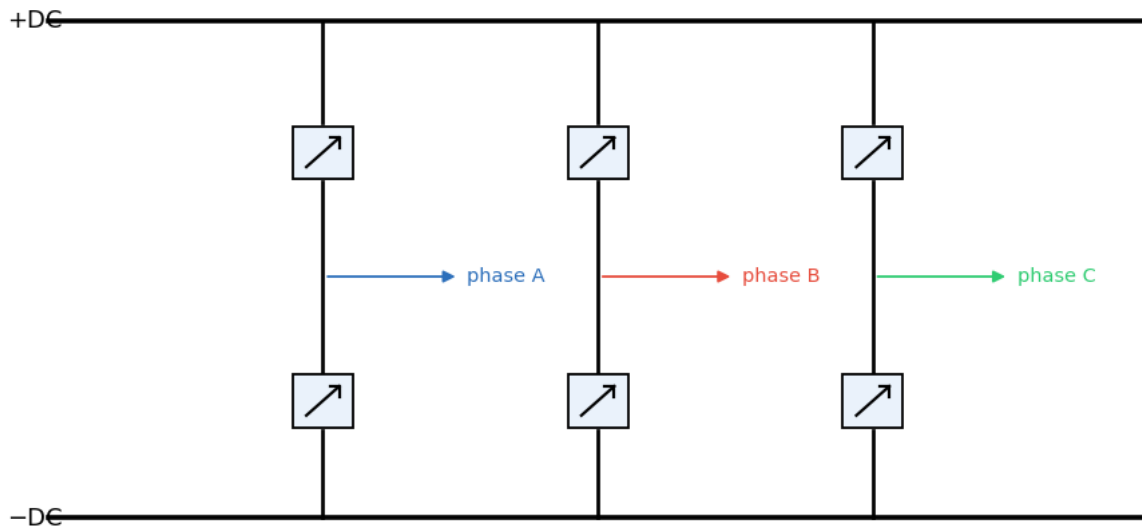

Figure 7: Fig. 7 — Three-phase inverter
4. **Three-phase voltage-source inverter (Fig. 7):** six power switches (IGBT/MOSFET) chop the DC bus to synthesise the desired sinusoidal voltages.